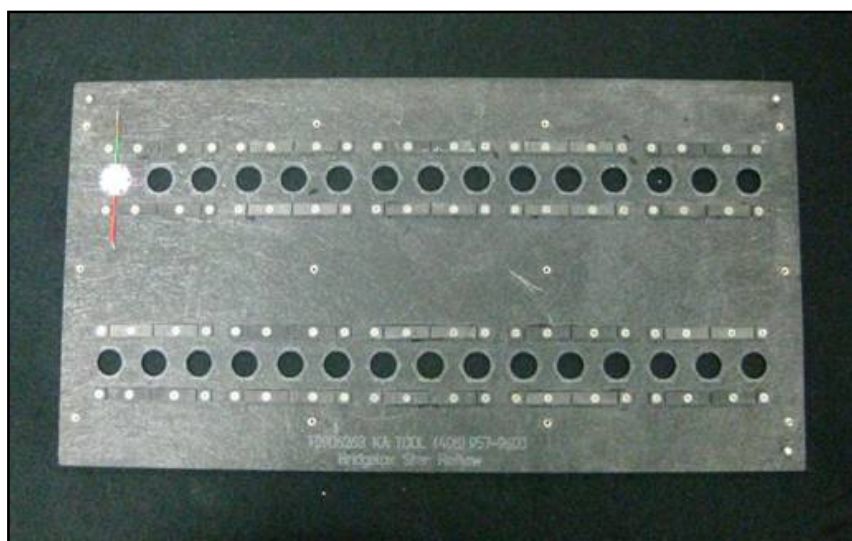

Figure 9: Solder reflow fixture bottom plate for Star LED Arrays
2. The wires are placed in the wire guides (Figure 9).